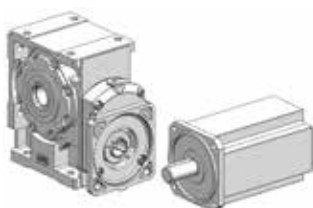

fig. 1
Prior to installation, thoroughly clean and lubricate the mating surfaces to avoid the risk of seizing and fretting corrosion (see fig. 1).
A half-coupling hub is to be fitted onto the servo motor keyless shaft end (if present, remove it; see fig. 1). In case of high starts/hour and heavy loads, it is necessary to request the non-standard design **«Coupling with keyway»**.
**Insert the half-coupling onto the servo motor shaft, as shown in fig. 1, abutting with elastomer ring seat.**